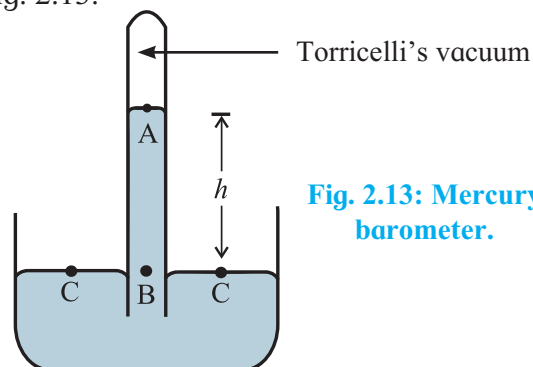

Fig. 2.13: Mercury barometer.
**i) Mercury Barometer:** An instrument that measures atmospheric pressure is called a *barometer*. One of the first barometers was invented by the Italian scientist Torricelli. The barometer is in the form of a glass tube completely filled with mercury and placed upside down in a small dish containing mercury. Its schematic diagram is shown in Fig. 2.13.